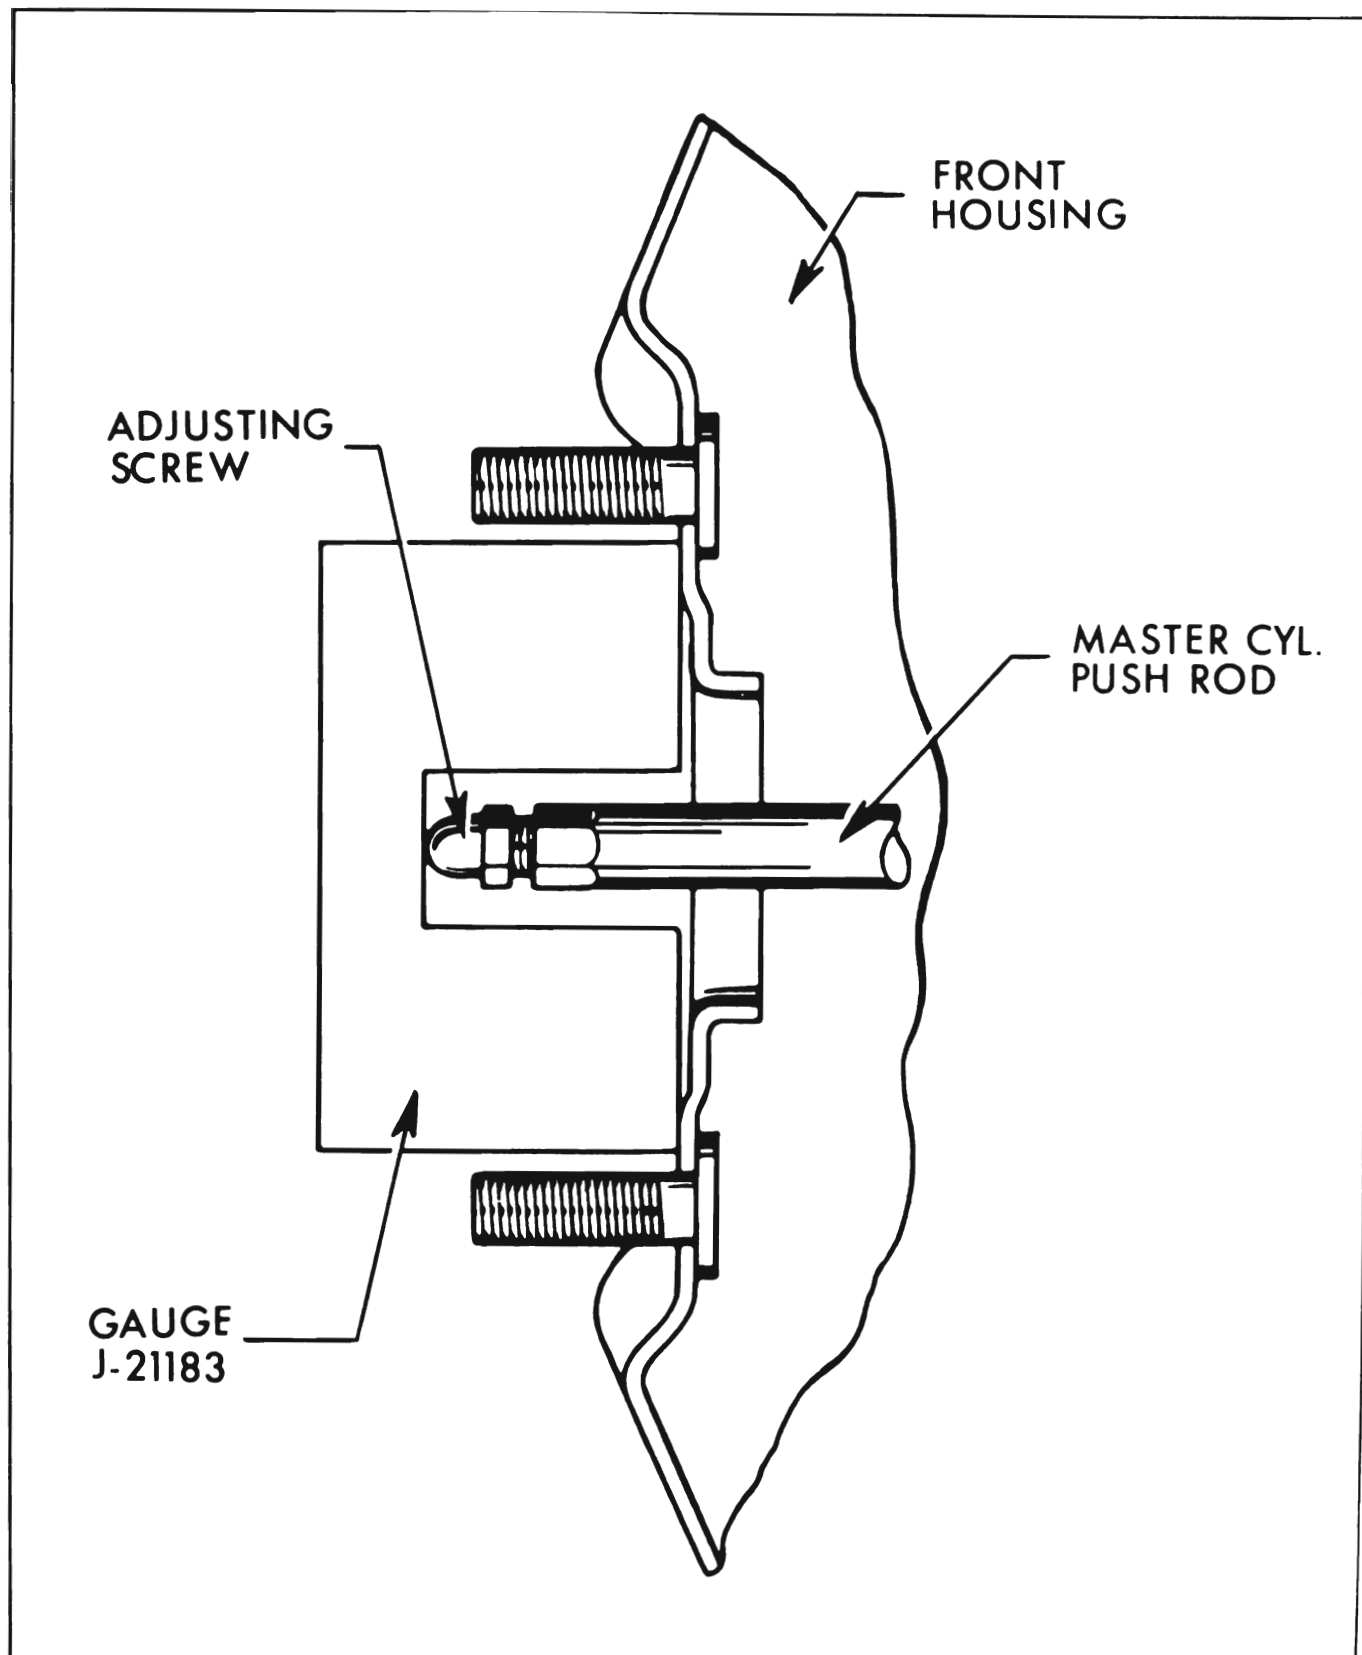

Figure 9-28—Brake Special Tools
2. Place Gauge J-21183 so that it stands perpendicular to front housing next to two studs, and bridges over end of master cylinder push rod. Push rod should be flush with gauge. See Figure 9-28.